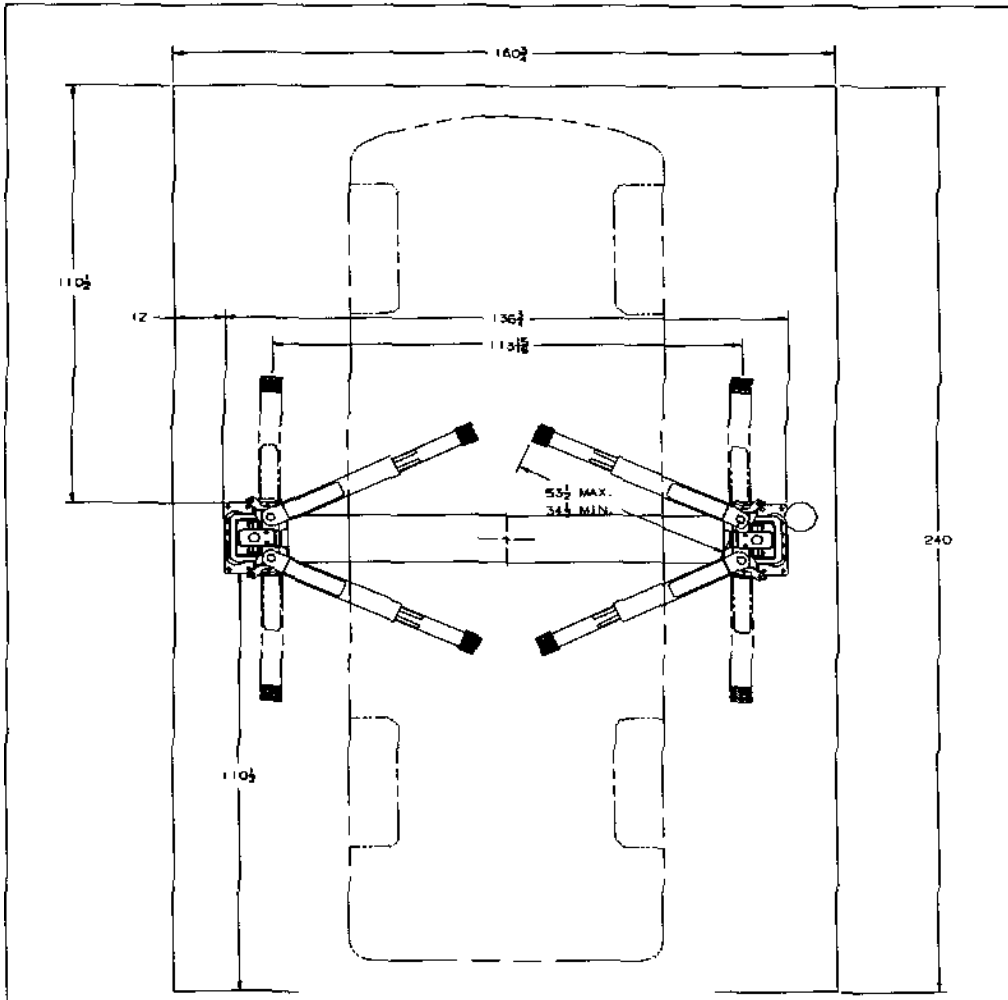

Figure 2 - Floor Space Requirements
8. Using the floor space requirements in Figure 2 as a guide, determine the best location for the passenger side post. Measure the distance along the chalk line from "B" to the selected point for the front edge of the base mounting plate. Mark this point "G". Measure the same distance along the chalk line from "C" and mark point "H" for the driver side post. Snap a chalk line between "G" and "H".
1. Determine the approximate location for the lift. Use the floor space requirements in Figure 2 as a guide.